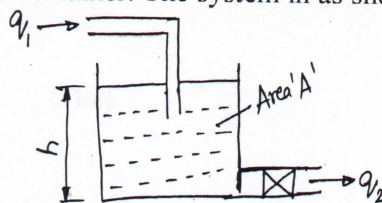

Fig Q7(a)
- Derive an expression to describe how the height of liquid in the container depends on the rate of input of liquid in to the container. The system in as shown in Fig Q7(a).